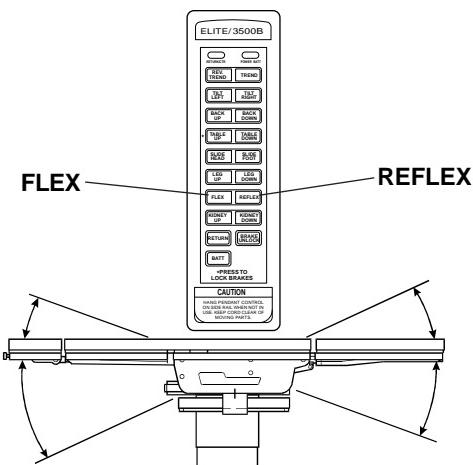

Figure 3-13. Flex/Reflex Positioning
**h. Flex Positioning.** To place the table top in a flex position from horizontal, press the FLEX button (figure 3-13). To return the table top to a horizontal position or into a reflex position, press the RETURN or REFLEX button.